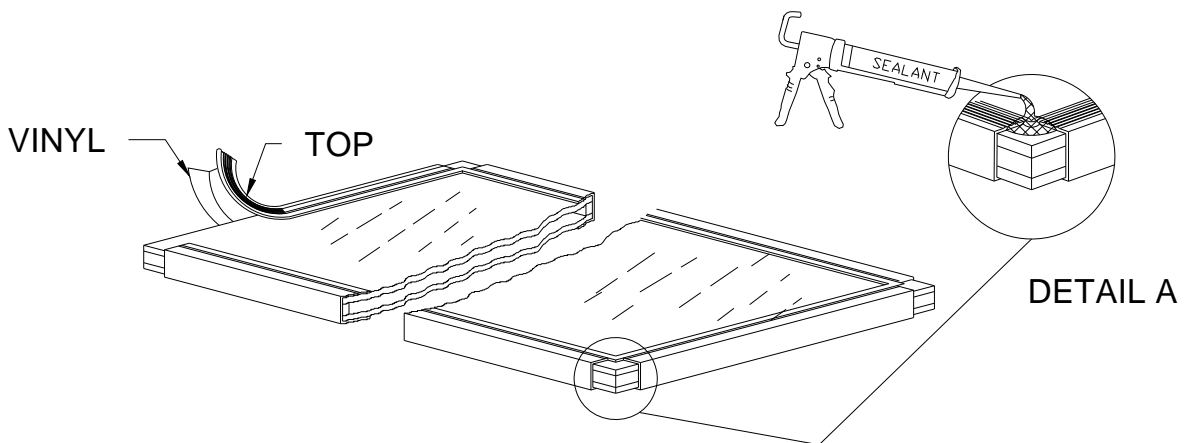

Figure 1:
2. Cut glazing vinyl at corners as shown in Figure 1, Detail "A".
5. Apply a bead of sealant that is compatible with the insulated glass seal to all four exterior corners as shown in Figure 1, Detail "A".